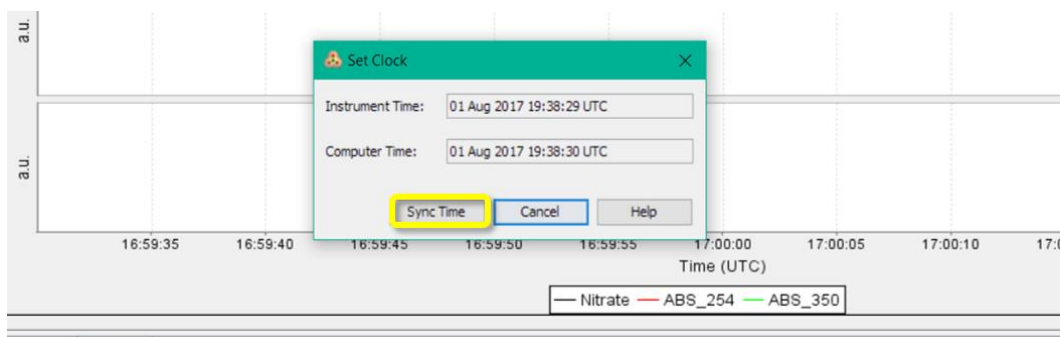

Figure 119. Click "Sync Time" to Synchronize SUNA Internal Clock
2. A **Set Clock** window opens. Click “Sync Time” (the **SUNACOM** software automatically converts your computer time to UTC). See Figure 119.